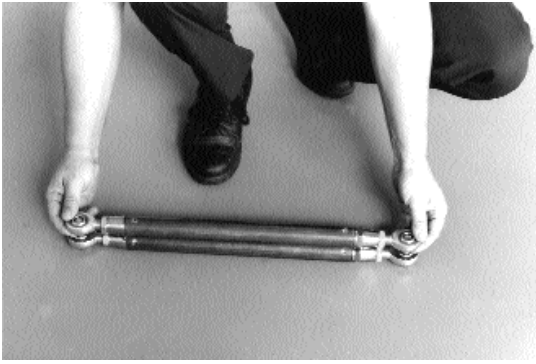

Figure 1
- 6...Set up one of the tubes so that the center to center measurement of the rod ends is 23 inches and are lined up with each other. Reset the jam nuts to lock the rod ends in place. Insert one bolt in each end. Set the remaining three 4-link tubes up so that they will all line up on the two bolts installed in the first tube. This insures that all four 4-link tubes are the same length. **See Figures 1 and 2.**